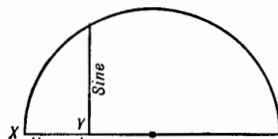

Fig. 58
60. The *Versed Sine* of an arc is the distance from the foot of a line drawn from one end of an arc, perpendicular to a radius drawn to the other end of the arc. A line drawn in continuation of the versed line would pass through the center of the circle. *X Y* in Fig. 58 shows the versed sine.